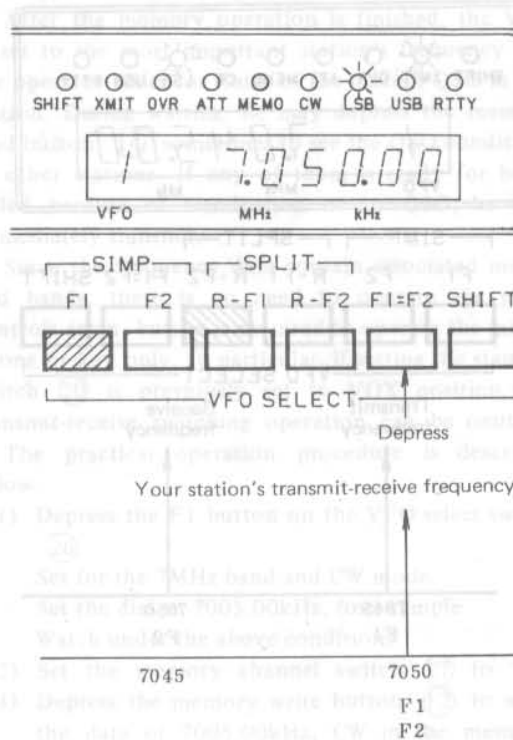

Figure 3.14
- (1) Assume own station is receiving in the LSB mode at 7050kHz, as shown in Figure 3.14.
- (2) Other station asks to call at a frequency lower 5kHz than the current frequency.
- (3) Depress the button F1=F2.
- (4) Depress the SHIFT button.